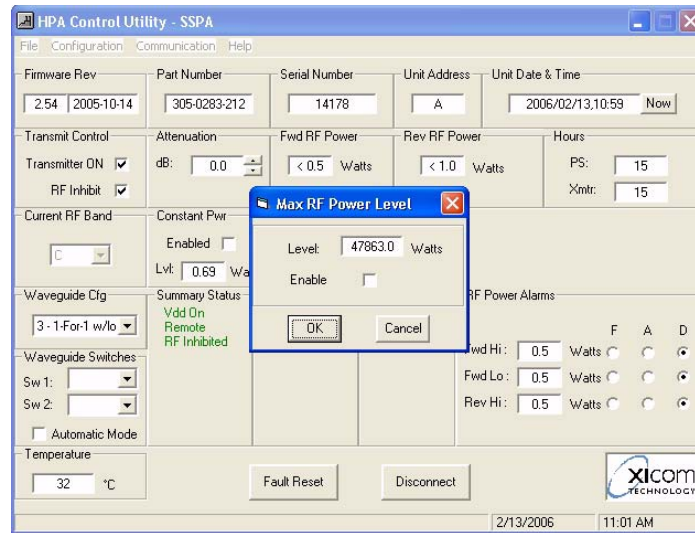

Figure 23, Maximum Power Level
- Refer to Figure 23. The “Configuration -> Max RF Power Level” sets the maximum power that may be produced by the amplifier. Once this output level is achieved, the amplifier will increase attenuation in the event that input drive is increased. This will continue until the input attenuator is at the maximum attenuation, after which the amplifier will fault with an overdrive condition.